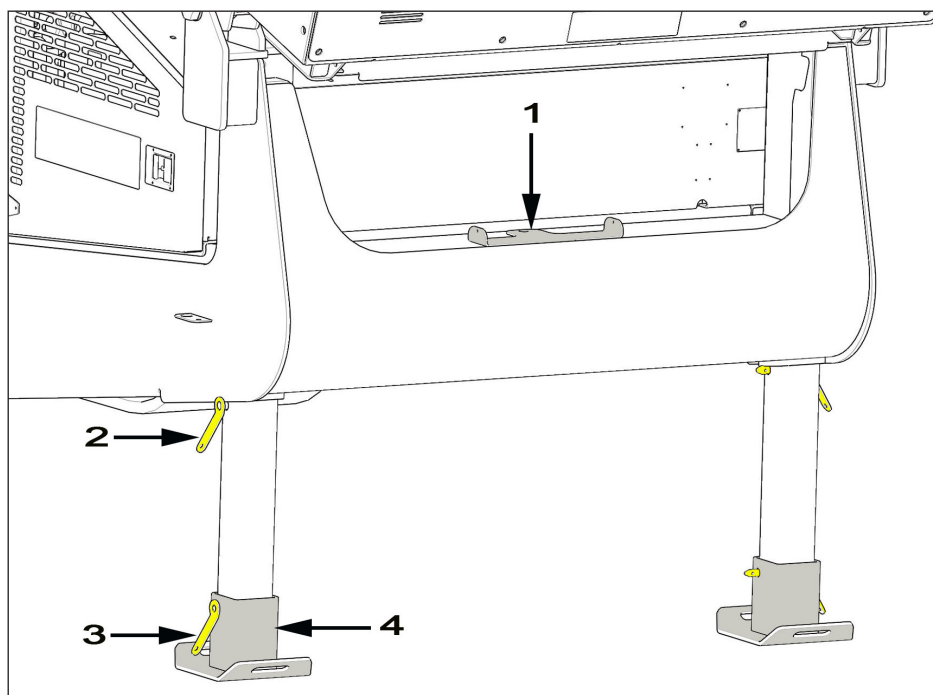

Figure 5.10 - Feeder Support Legs
1. Remove the feeder support leg shoes pins (3) and leg pins (2) Ref: Figure 5.10.
3. Place the support leg shoes in their transport position (1) Figure 5.10.